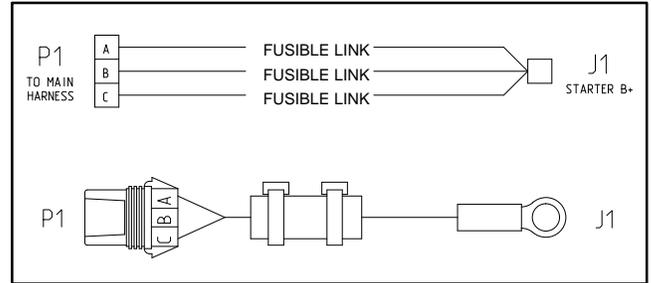

Figure 28
3. For fusible link harness (Fig. 28):